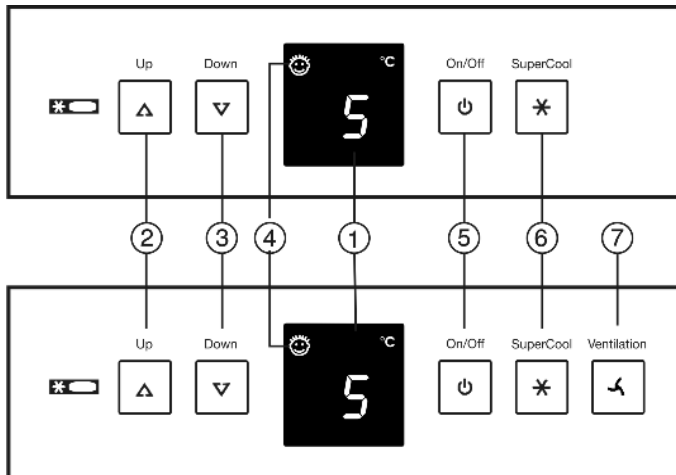

Fig. 2
- ▶ Press On/Off button *Fig. 2 (5)*.
- ▶ To activate the setting mode: press SuperCool button *Fig. 2 (6)* for about 5s.
- ▶ Using the Up setting button *Fig. 2 (2)* and Down setting button *Fig. 2 (3)*, select h .
- ▶ To confirm: briefly press the SuperCool button *Fig. 2 (6)*.
- ▶ To set the display brighter: press the Up setting button *Fig. 2 (2)*.
- ▶ To set the display darker: press the Down setting button *Fig. 2 (3)*.